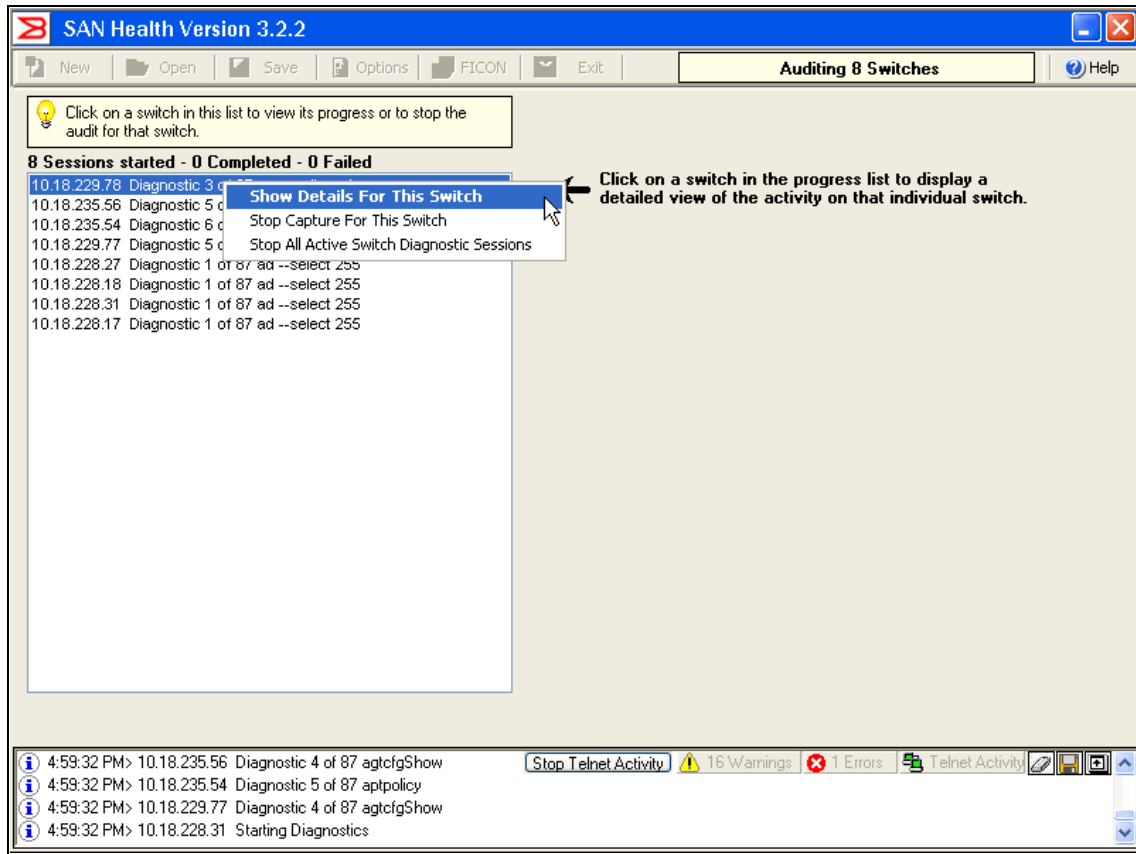

Figure 17-14 SAN Health Diagnostics Capture Show Details
8. Right-clicking a specific switch allows you to view its status details, as shown in Figure 17-14.